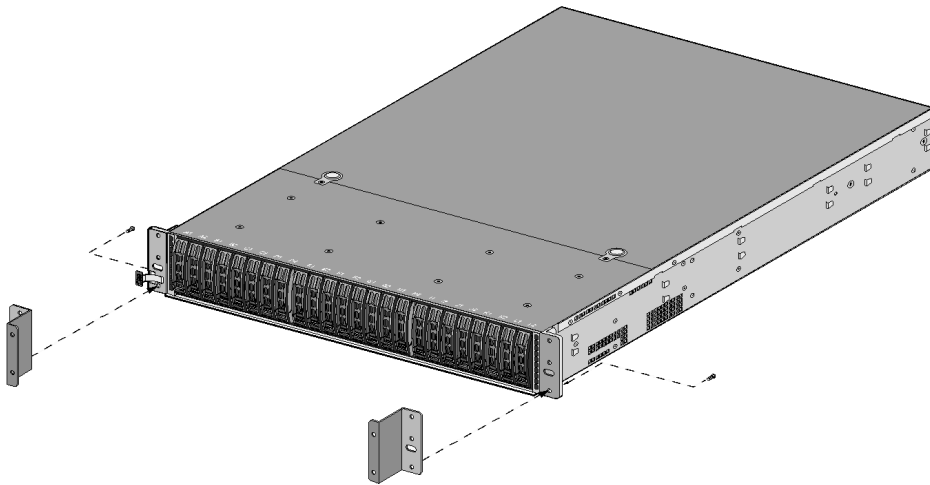
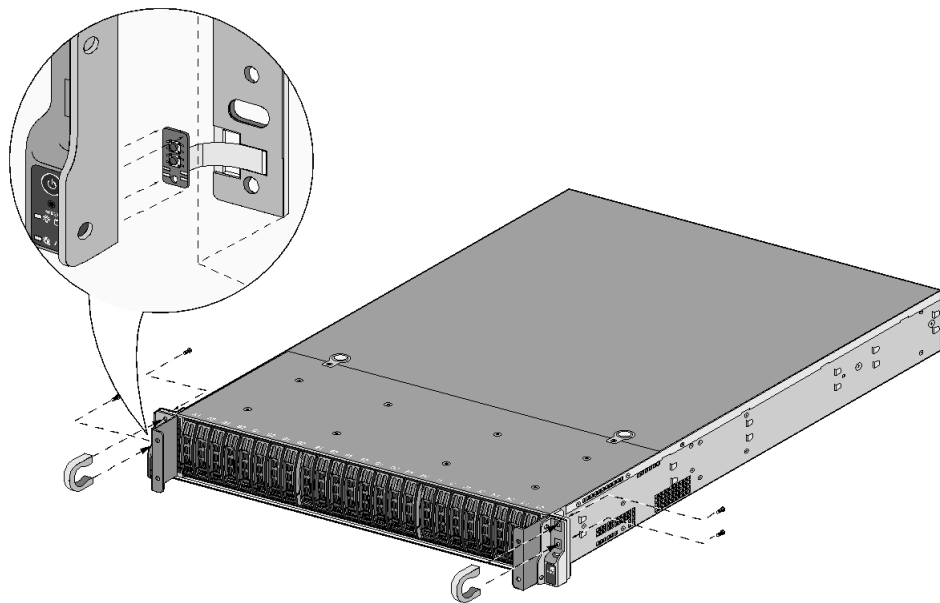

Figure 15 – M-500: Secure the Front Brackets
Figure 16 – M-500: Attach Pull Handles and Front Modules
Attach the left and right front cover brackets to the appliance using the six (6) screws that you removed in Step 1. First attach the brackets using the bottom screws (one on each side) as shown in Figure 15, ensuring that you feed the ribbon cable and LED circuit board through the left bracket. Replace the front modules and secure them using the middle and top screws on each side as shown in Figure 16.